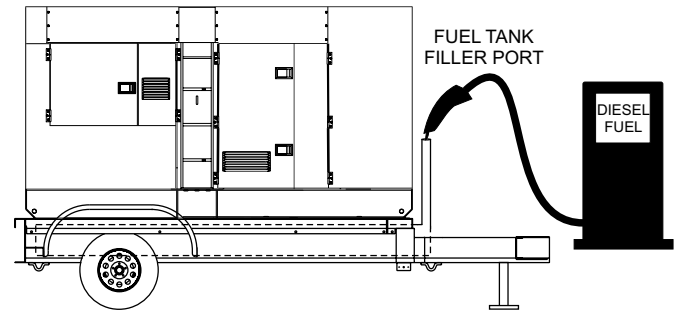

Figure 30. Fueling
2. Remove fuel cap and fill tank (Figure 30).